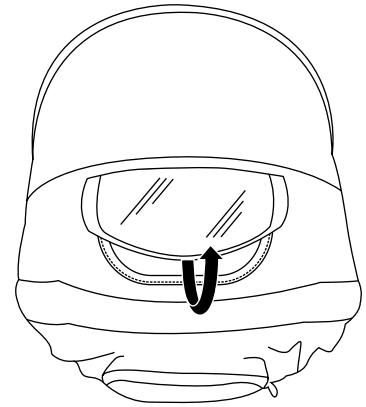

Fig. 6
10. To open, flip backwards to show peek-a-boo window. (Fig. 6)